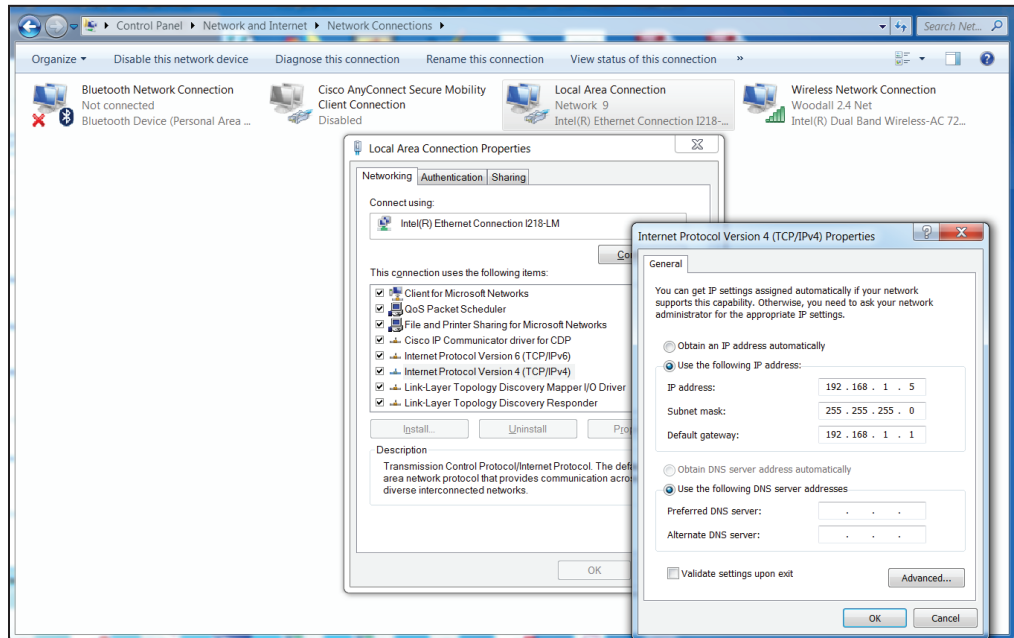

Figure 3. Setting a static IP address on a PC to connect to the communications gateway.
STEP 2. The communications gateway is accessed using a web browser interface. The default configuration of the communications gateway's IP gateway is 192.168.1.1 with DHCP set to **On**. To join the communications gateway network, set the PC's network address to "Obtain an IP Address Automatically" and "Obtain DNS Server Address Automatically" under the PC's LAN address settings to enable a network connection to the communications gateway. Alternately, a static IP address within the 192.168.1.x network may be used. See Figure 3.